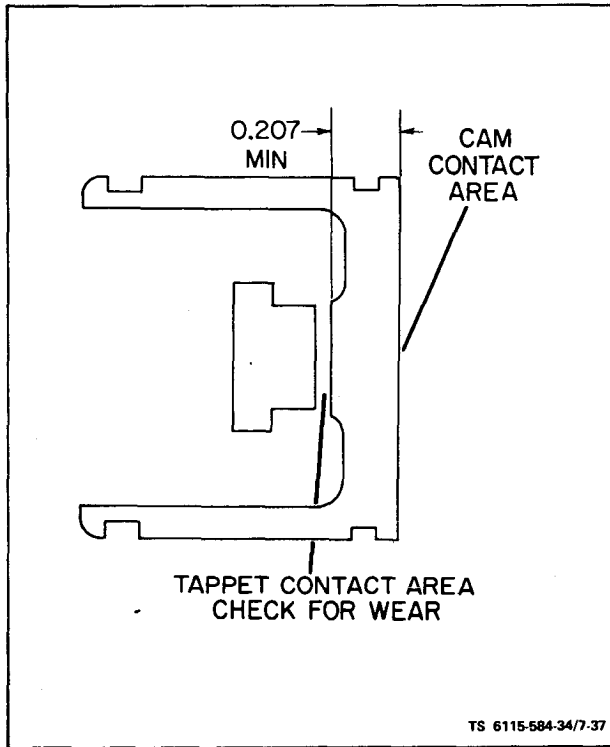

Figure 7-37. Inspecting Tappet
(5) Inspect the tappet (20) for possible wear at the contact areas. The primary contact areas are the tappet contact area and the cam contact area (figure 7-37). Replace the tappet if wear indentations exceed 0.002". The tappet thickness measured between the plunger button contact surface and the cam contact area must be 0.207" or larger.